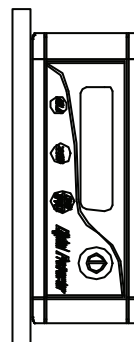
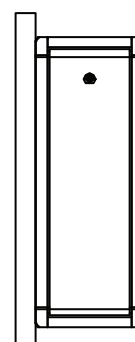

Figure 16
Figure 17
(3) Overturn the unit on the same plane as figure 16, wait 10 seconds and record the third angle degree when it is stable.
(4) Rotate the instrument 180° on basis of figure 16, see figure 17, wait 10 seconds and record the fourth angle degree when it is stable.